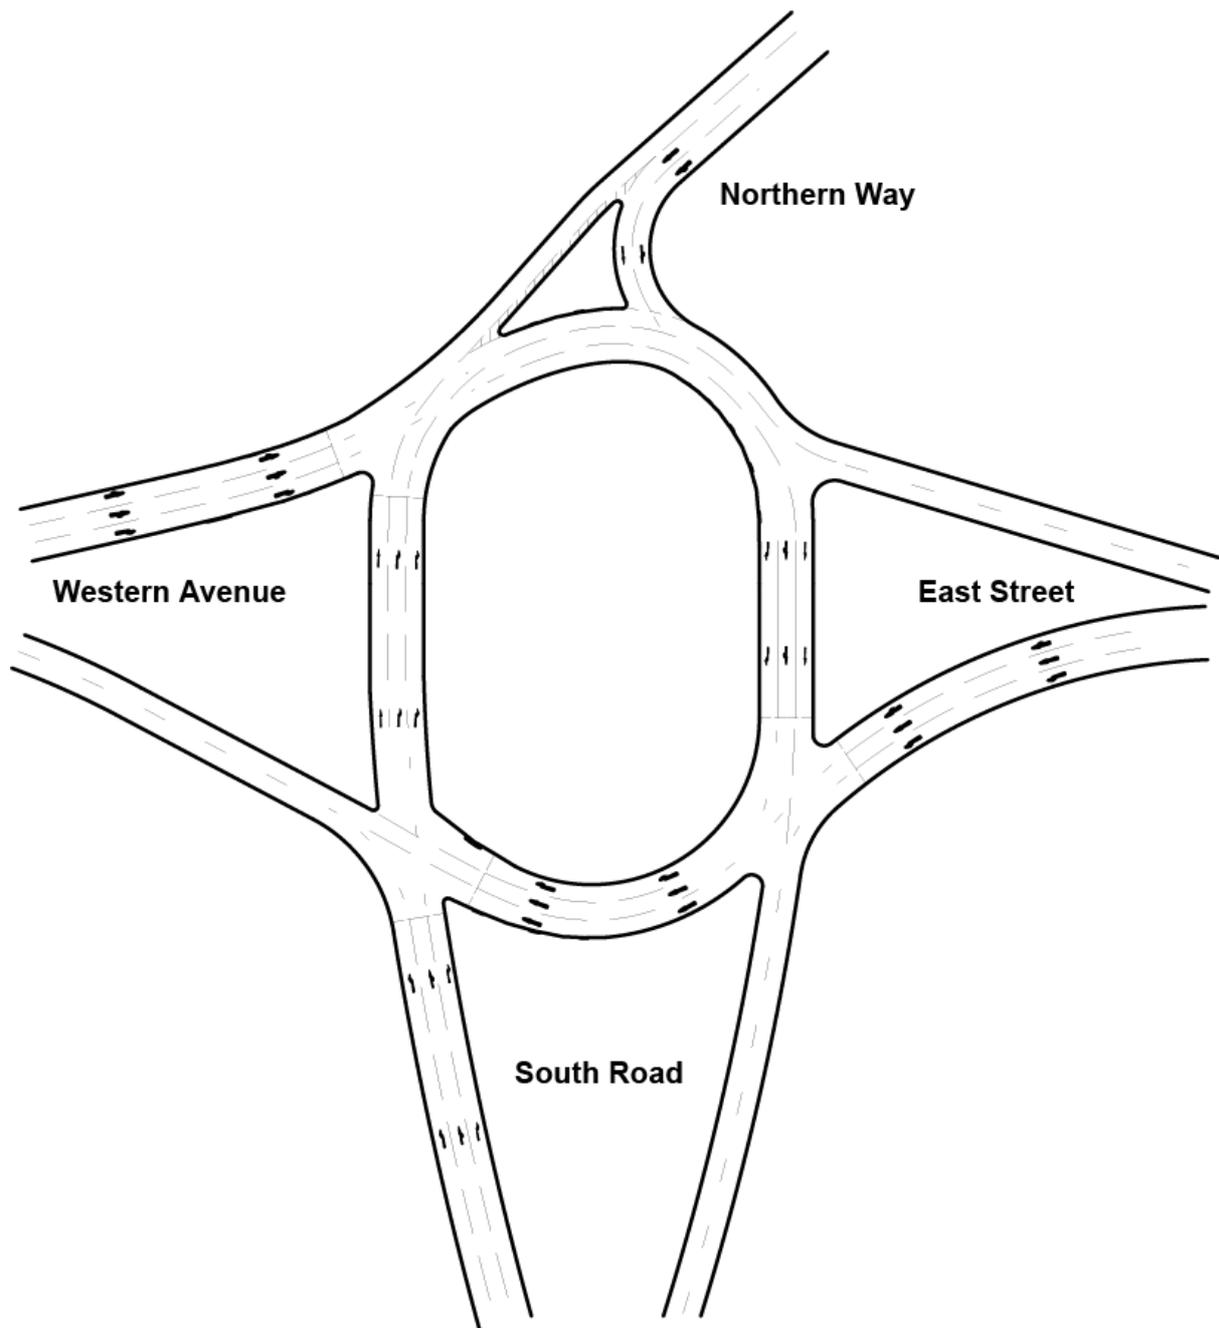
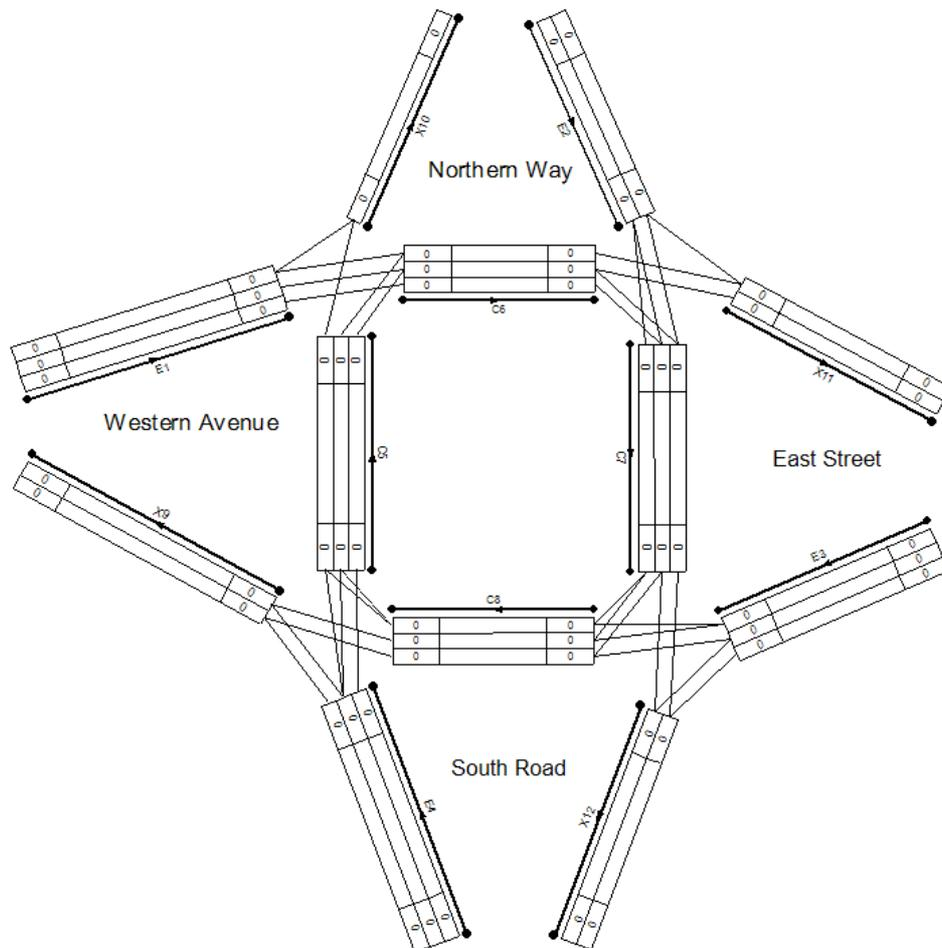

Figure 4.1 - Tutorial Example
Figure 4.5 The Tutorial Example after adding Lane Connectors in Step 2.
The example to be used in this tutorial is shown in Figure 4.1. It is a fictitious four-arm signal roundabout, which represents a typical example of such a junction. The roundabout is marked with spiral lane markings that guide vehicles through the junction avoiding the need for lane changing providing vehicles approach the junction in the correct lane. (i.e. A decent job needs to be done on the approach signing and lining!)
- A dialog box will request the Arm's number and the initial number of Lanes on the Arm. These values are only initial values for the new Arm and can be changed later if desired. In this case, the default Arm number 1 can be left as it is and the number of Lanes changed to three, as the Entry Arm from Western Ave. has three Lanes as shown in Figure 4.1. After changing the number of Lanes, click OK to create the Arm and drag the new Arm into approximately the correct position on the Network Diagram.
Figure 4.5 shows the Tutorial example roundabout with Lane Connectors representing the lane structure shown in the lane marking drawing in Figure 4.1.
- The Lane Connectors from Entry Arm 1 to Circulatory Arm 6 will be added first. Both Arms have three Lanes and each Lane on the Entry Arm connects to the same Lane on the Circulatory Arm as can be seen in Figure 4.5.
- Repeat the above to add Lane Connectors between Arm 1 and 6 for the middle and right Lanes on these Arms, referring to Figure 4.5 as necessary.
- Replace the Lane Connector deleted above and then go on to add all of the other Lane Connectors shown in Figure 4.5. You may find it useful to refer to a copy of the roundabout's lane markings whilst doing this to help understand how the Lane Connector positions were determined.